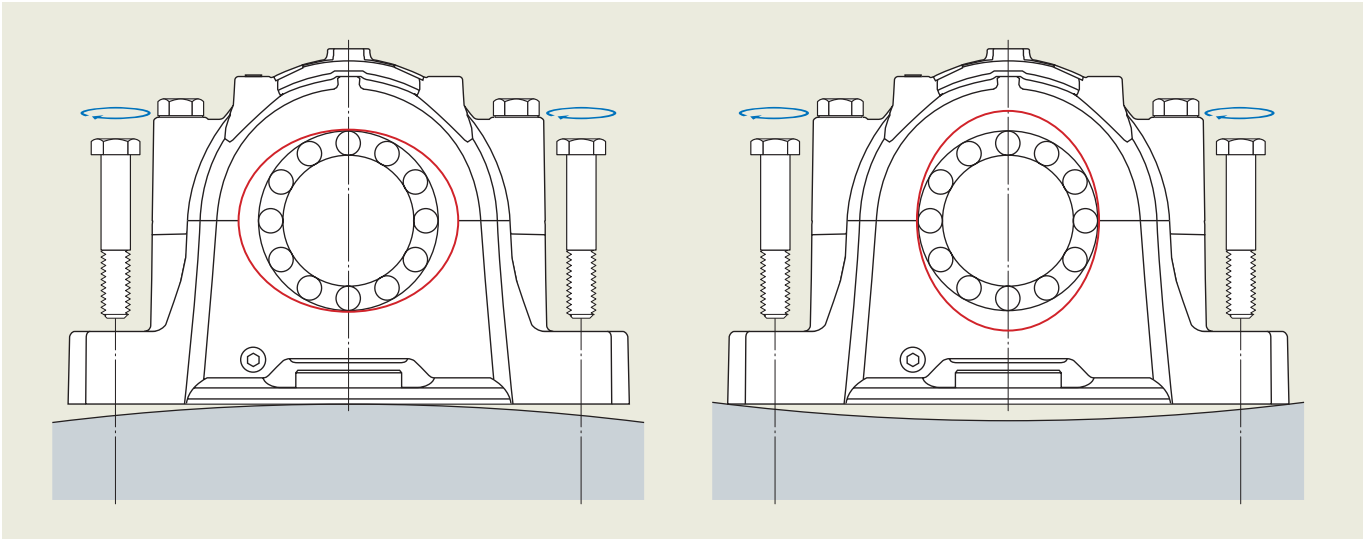

Fig. 2: Housing bores after attachment bolts are tightened
- C** Housing deformation due to poor support. **Figure 2** shows housings on uneven support with the red ovals indicating the